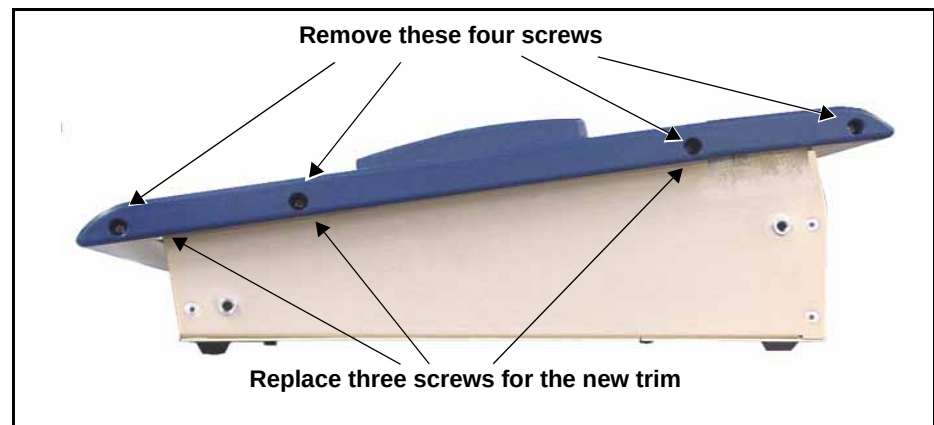

Figure 2-3. Removal of Trim
1. Remove the four screws on each side of the main control panel trim (see Figure 2-3).
The main and audio control panels can be mounted in a rack with or without the outer trim attached. However, the outer trim will use an additional 1RU of extra space above and below the unit if it is left attached. If you choose to remove the trim, ensure that you replace the two middle screws found on each side (see Figure 2-3 on page 21).